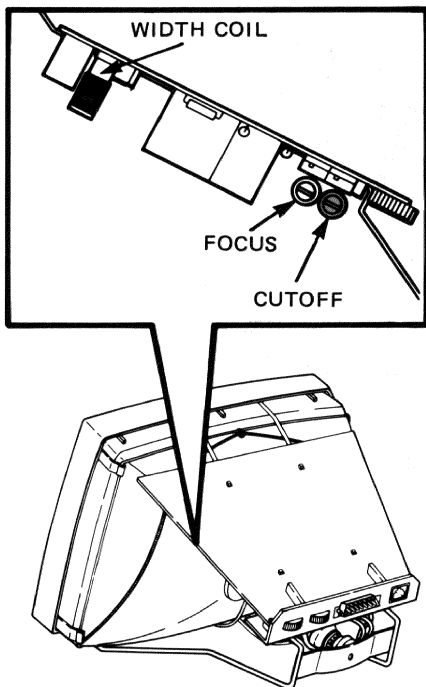

Figure 5-46 Monitor Module Cutoff Control
1. Set the cutoff control of the new monitor module to the same position as the cutoff control on the old module. See Figure 5-46.